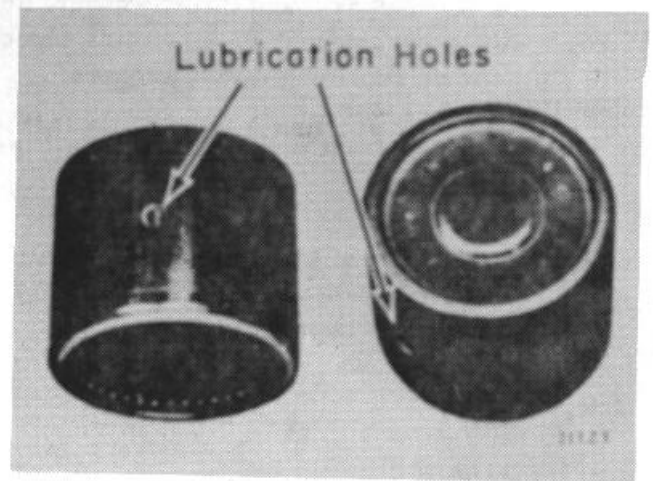

Figure 10.
4. Align lube holes (Fig. 10) of the lower bearing with grease fitting on spindle. Press lower pin bearing into place until bearing end almost contacts the king pin surface. The bearing can be pressed into position by placing a jack under the bearing and axle.